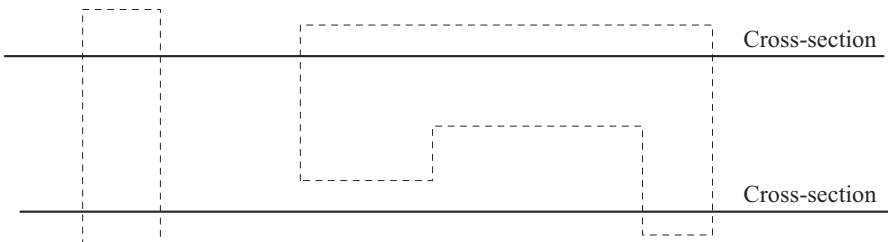

Figure 2.27 Layout used in problem 2.1.
- 2.1** For the layout seen in Fig. 2.27, sketch the cross-sectional views at the places indicated. Is there a parasitic pn junction in the layout? If so, where? Is there a parasitic bipolar transistor? If so, where?